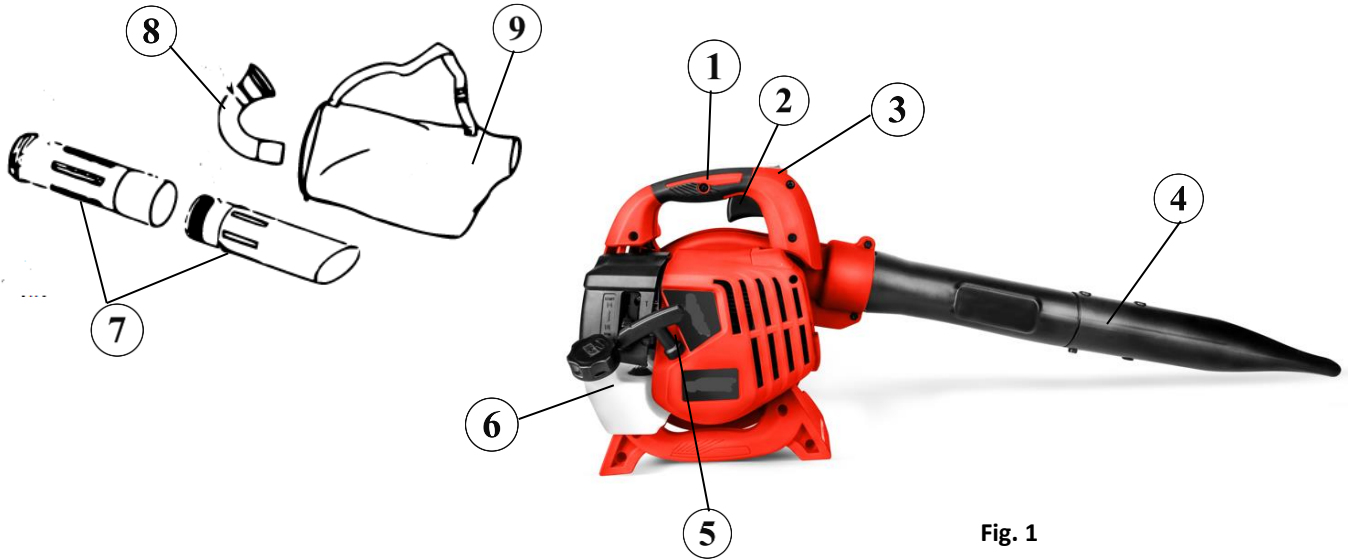

Fig. 1
- All parts (**Fig. 1**) have been fitted correctly and the screws have been tightened.